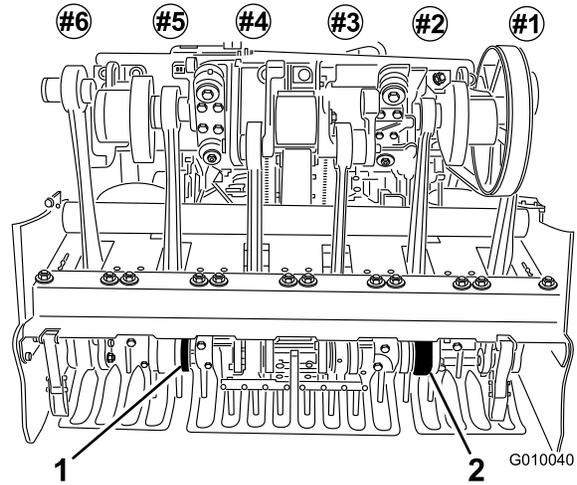

Figure 26
5. Install tines into the #2 and #5 tine holders (Figure 26) Tighten the bolts.